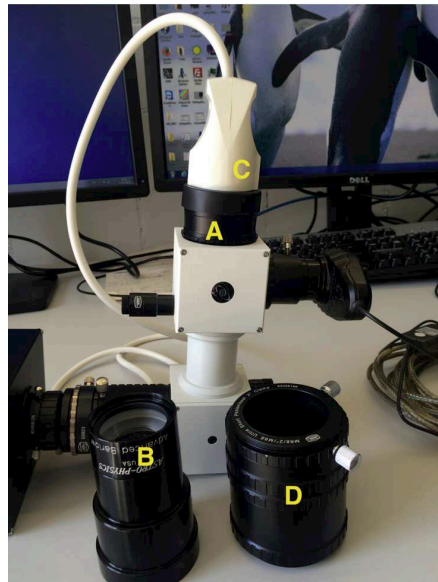

Figure 41: Spectrograph calibration assembly:
See Figs. 33-38 for an overview of the packing of all the components and their assembly for observation. See Fig. 41 for the calibration assembly using the neon calibration lamp.
- Attach the **calibration lamp** to the spectrograph assembly according to Fig. 41.